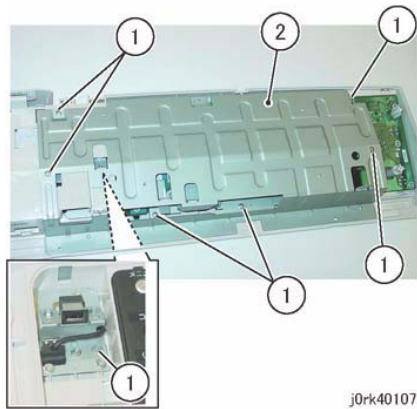

Figure 7 Base Frame Removal
12. Remove the Base Frame. (Figure 7)